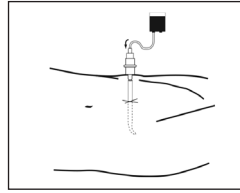

Figure 5
- 14. Run solution into peritoneal cavity. Gently manipulate patient as required to insure proper intermixing of fluid. Suggested time to allow for intermixing is 10 minutes (refer to Figure 5).